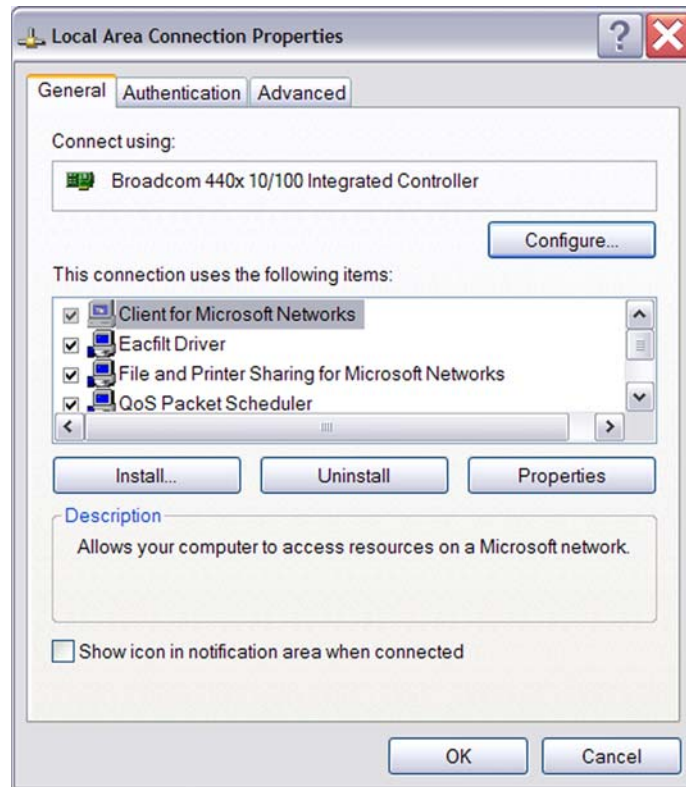

Figure 8. Local Area Connection Properties Dialog
3. In the **Local Area Connection Status** window, click **Properties** button. The **Local Area Connection Properties** dialog appears, see Figure 8.